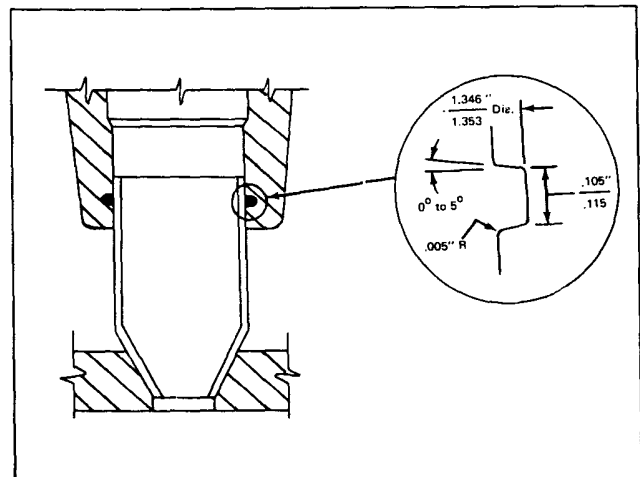

Fig. 2-15, (V40244). "O" ring groove in head
- Coat new "O" rings with clean engine lubricating oil. Install "O" ring into groove of head injector sleeve bore. See Fig. 2-15.